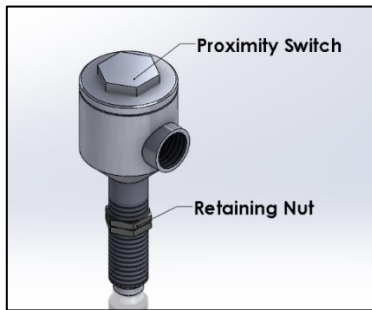

Figure 1 - Z-ALERT Switch
- b) Thread the Retaining nut onto switch (Figure 1).
- Thread the Retaining nut onto switch (Figure 1).